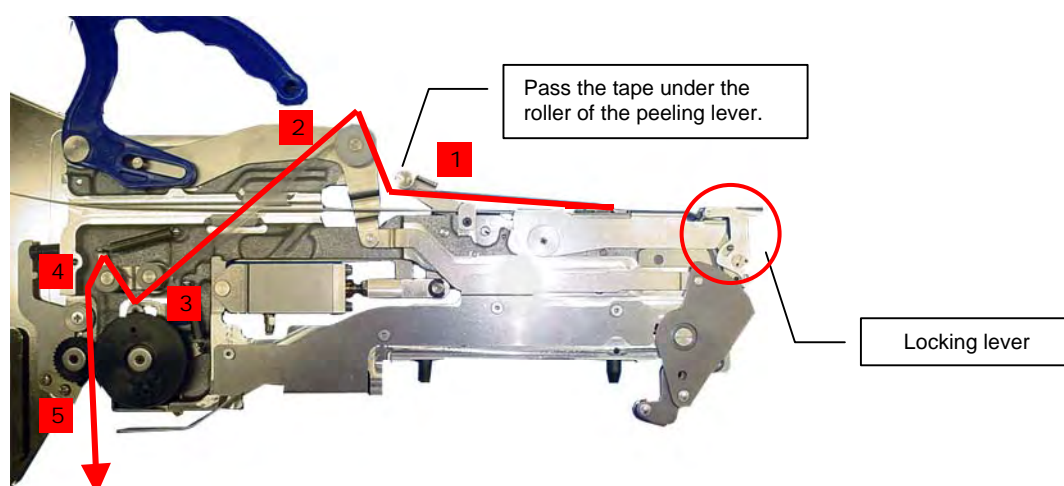

Fig 9
4. Push down the tape guide and get the locking lever back.(Fig 9) When lowering the tape guide, set the carrier tape so that the gear can engage with the holes in the carrier tape.